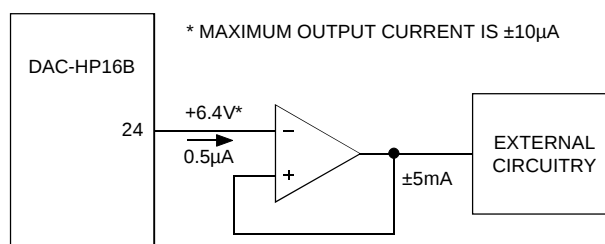

Figure 2. Use of Reference Output
- If the reference output (pin 24) is used, it must be buffered by an operational amplifier in the noninverting mode. See Figure 2. Current drawn from pin 24 should be limited to ±10μA in order that the temperature coefficient of the reference circuit not be affected. This is sufficient current for the bias current requirements of most popular operational amplifier types.